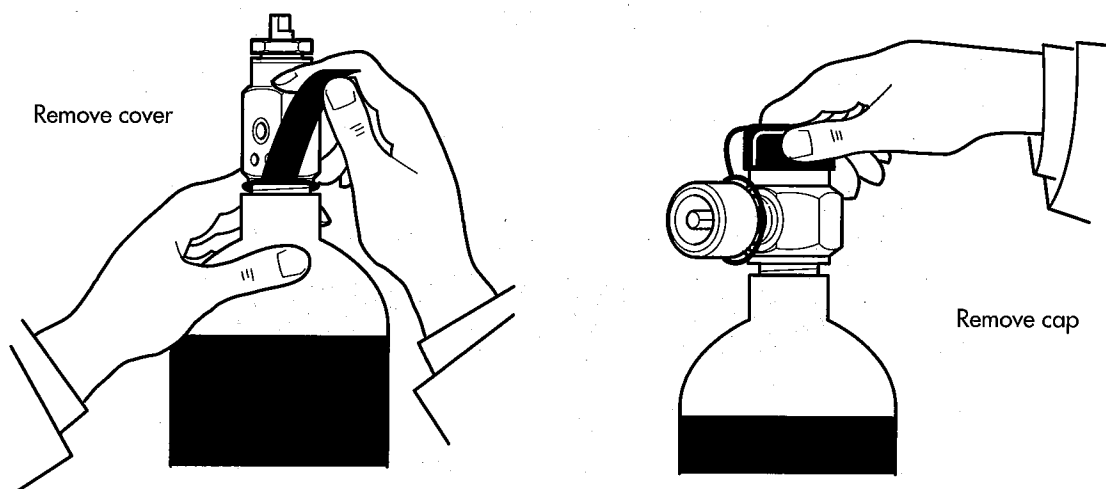

Figure 16: Protective caps and seals
- Do replace the protective covers or caps from the valves of empty cylinders (Figure 16)
- i. remove protective cover or seal from the valve and retain this in a safe place (around the cylinder collar) (Figure 16)